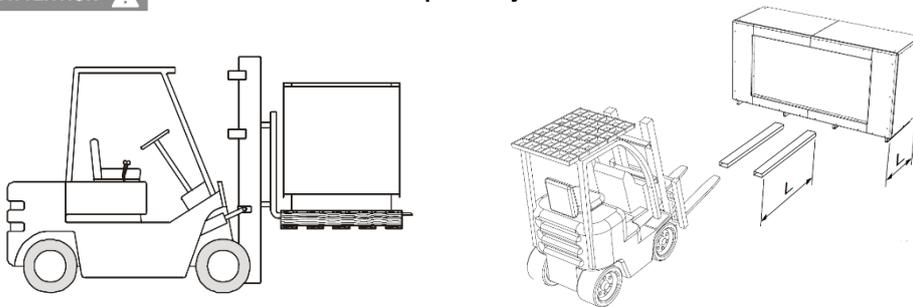

Fig. 3
**ATTENTION** ⚠ Before transporting the device make sure that the forks of forklift truck are sufficient length that will come out from the opposite side of the device! (Fig. 3)